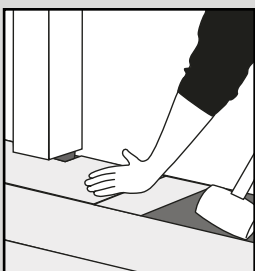

Fig. 6
7. Under door frames: If plank/tile cannot be lifted use an adapted tapping block (or cut off material) and mallet to carefully tap the plank/tile together flat on the floor (Fig. 6).